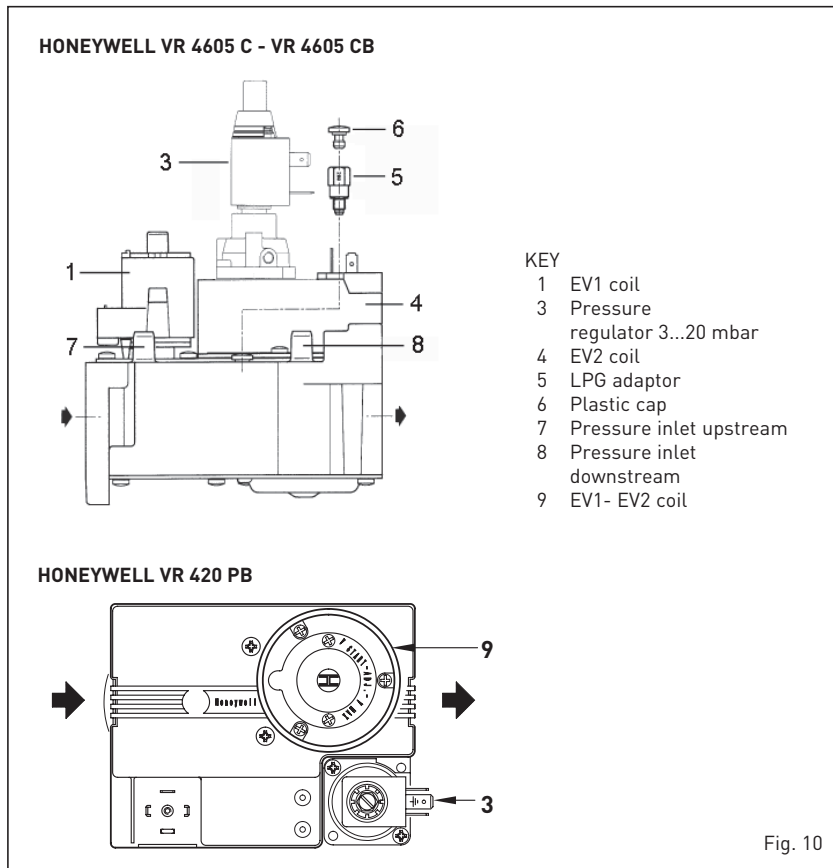

Fig. 10
4.1 GAS VALVE (fig. 10)
"RMG Mk.II" boilers come equipped standard with a HONEYWELL VR 4605 C gas valve (for "70 - 80" models), VR 4605 CB gas valve (for "90 - 100" models) and VR 420 PB gas valve (for "110" models). When the boiler is ignited the first time, it is always recommended to bleed the piping by using the pressure outlet upstream from the valve (7 fig. 10 - 9 fig. 2).
ler gas conversion kit, pressure regulator (3...20 mbar) with pressure regulator (4...37 mbar) and apply the LPG adaptor code 6248303 onto the gas valve (5 fig. 10) for "70÷100 Mk.II" models.